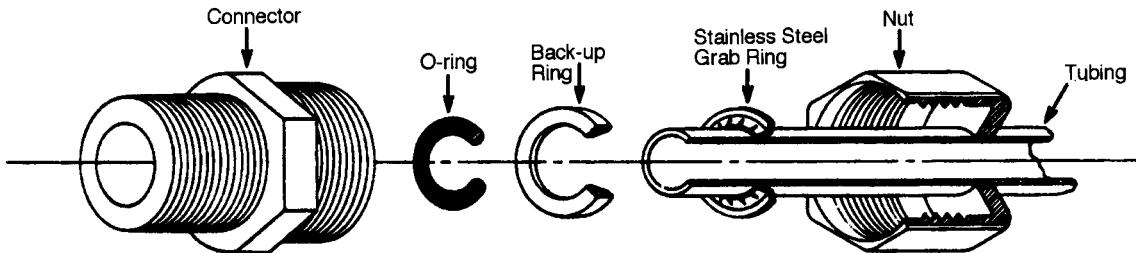

Figure 3 Typical Polypropylene Tubing Adapter Installation
1. Completely disassemble the fitting. Refer to Figure 3 to familiarize yourself with the names of the component parts.
3. Place the grab ring and back-up ring in the hex nut in the order and orientation shown in Figure 3. Thread the nut onto the adapter. DO NOT use the o-ring at this time.